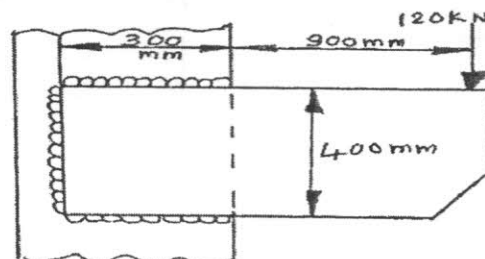

Fig. Q10 (b)
- b) Determine the size of weld for a bracket welded as shown in Fig. Q10 (b). The allowable stress in the weld is 75 MPa.